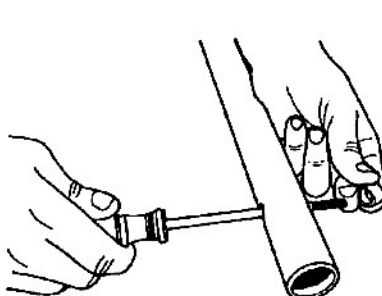

Fig. A-12
16. Place a spacer on the screw, as seen in Fig. A-12.